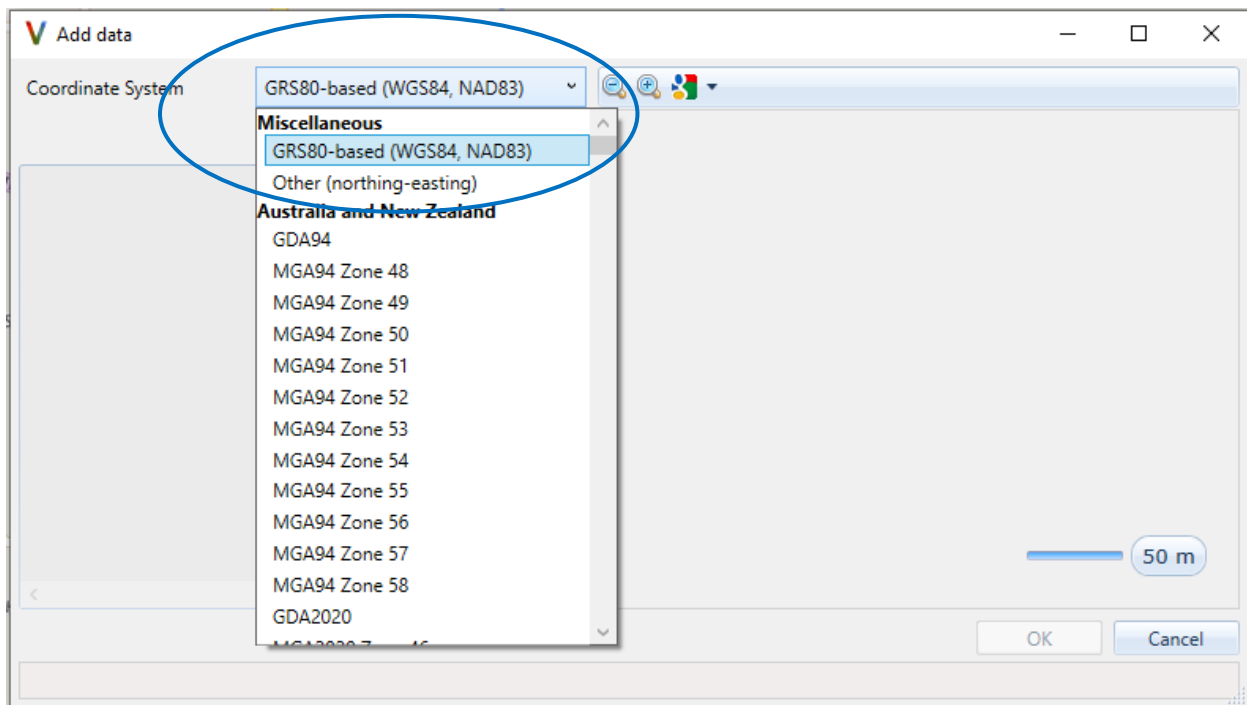

Figure 5. Add data window. Select the correct coordinate system before importing data.
3. Verify the auto-detected GPS coordinate information. Correct or enter any missing information for the coordinate system and units (if applicable). All supported coordinate systems are in the drop-down menu, as shown in Figure 5. Supported coordinate systems include:
Opening data files directly instead of creating a new project is (slightly) more efficient when using manual data import options. Another option is simply to drag-&-drop data files from File Explorer to the Veta software. Dragging-&-dropping automatically launches the data import wizard illustrated in Figure 5.